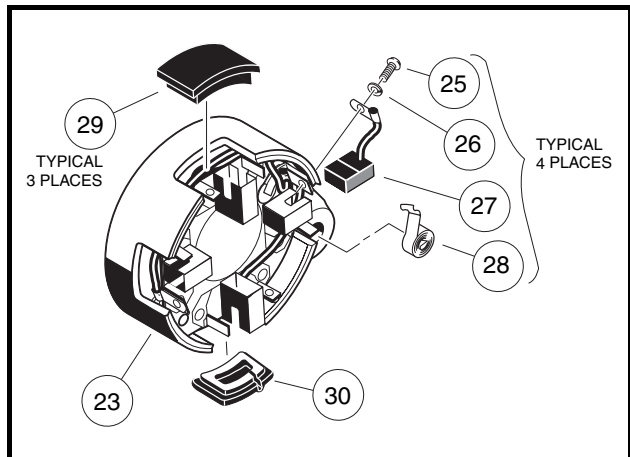
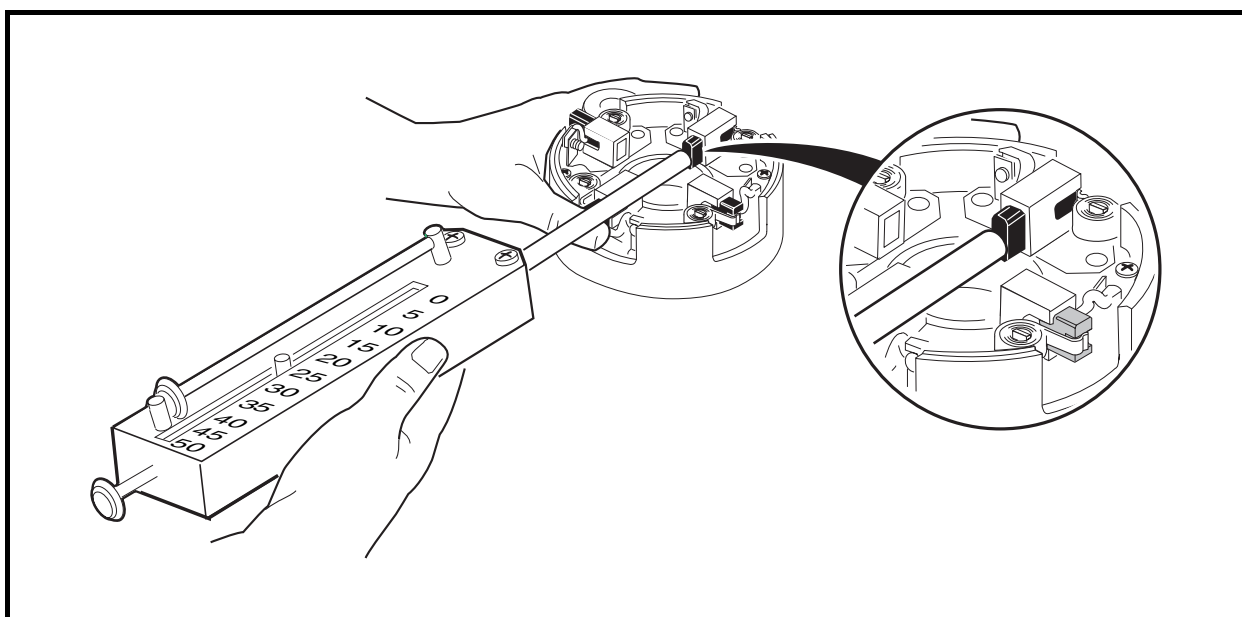

Figure 12-3 Brush Covers and Brushes
Figure 12-5 Brush Spring Tension Test
2. Remove brush covers (29 and 30), screws (25) and lock washers (26), brush springs (28), and brushes (27) (**Figure 12-3, Page 12-2**). See following NOTE.
2. Install the four brushes (27) into their holders and insert the four brush springs (28) (**Figure 12-3, Page 12-2**). Using a spring scale, test brush spring tension. If any spring has a tension less than 24 ounces (6.67 N), replace all four springs (**Figure 12-5, Page 12-3**). See following **CAUTION**.
1. Connect the brush wires to the holders using four lock washers (26) and four screws (25), making sure the crossover leads are connected also. Tighten the screws to 31 in-lb (3.5 N·m) **(Figure 12-3, Page 12-2)**.
4. Push the brushes down into the holders. Position springs into the notches in the brushes. Install the brush cover (30) that has the drain hole in it next to the A2 terminal. Install the remaining three brush covers (29) in the openings in the commutator end cover (23) **(Figure 12-3, Page 12-2)**.
10. Push the brushes down into the holders. Place springs into the notches in the brushes. Install the brush cover (30) that has the drain hole in it next to the A2 terminal. Install the remaining three brush covers (29) in the openings in the commutator end cover (23) (**Figure 12-3, Page 12-2**).